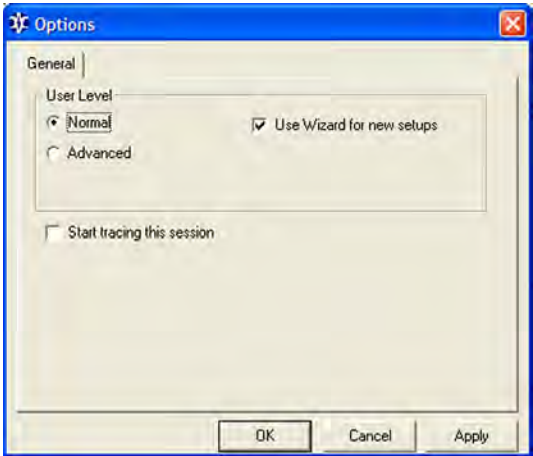

Figure 10 Disabling or Enabling Wizard Tool
1. Choose **Options** from the **View** menu. The **Options** window, presented in Figure 10 on page 33, appears.